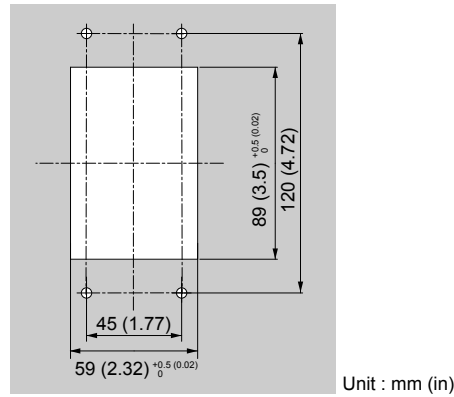

Figure 2.11 Panel Cut-Out Dimensions (Internal/Flush-Mount Installation)
1. Cut an opening in the enclosure panel for the HOA keypad as shown in Figure 2.11.